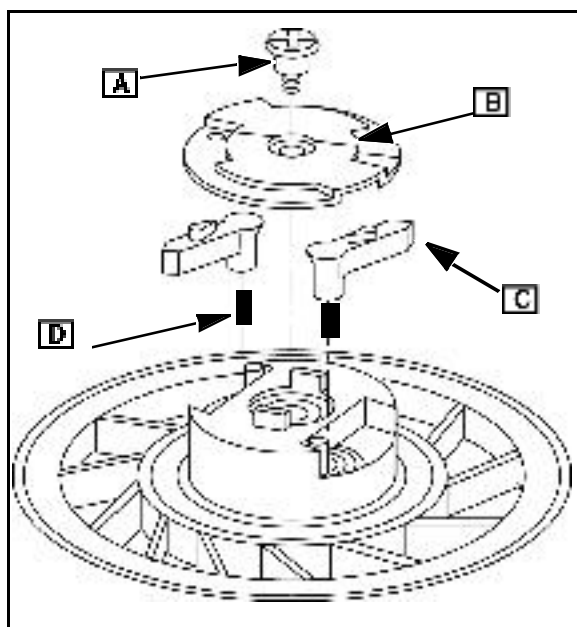

Fig. 4
7. Remove shoulder screw (A) and retainer (B).
8. Lift out pawls (C) and springs ([D] Fig. 4).